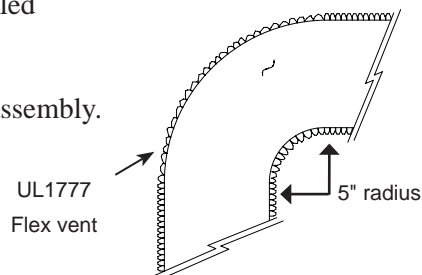

Figure 2 — Minimum radius for flex vent section
3. Do not allow the flexible vent to bend in radius tighter than 5" (127mm). Refer to *Figure 2*.